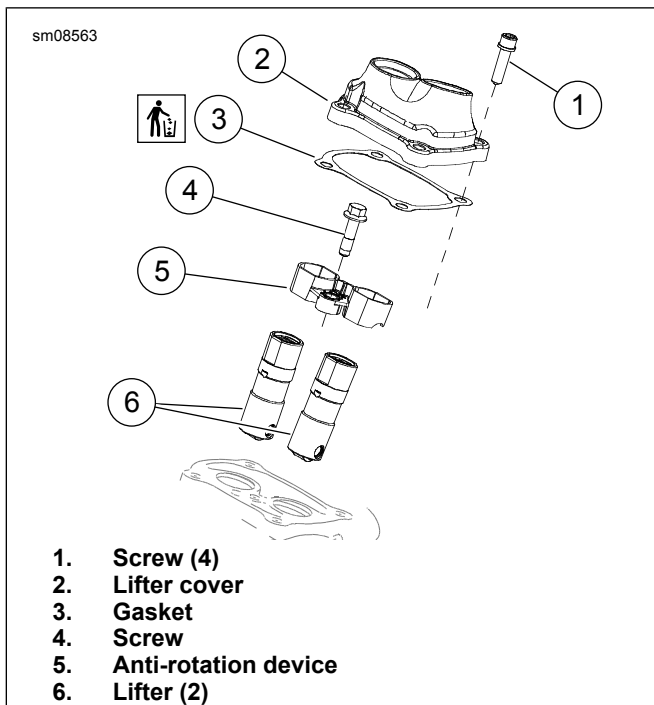

Figure 3. Lifter Cover
1. See Figure 3. Remove four screws (1).
2. Remove lifter cover (2) and gasket (3). Discard gasket.
1. See Figure 3. Install lifter cover (2), **new** gasket (3) and screws (1).